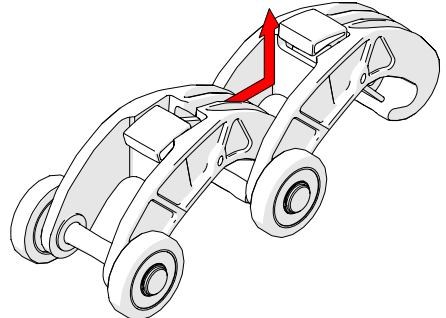

Fig. 42 - Slide QuickLink forward and lift
2. While pressing the button, slide the QuickLink forward and up, clearing the hook of the QuickLink from the 2nd QuickLink's axle (Fig. 42).